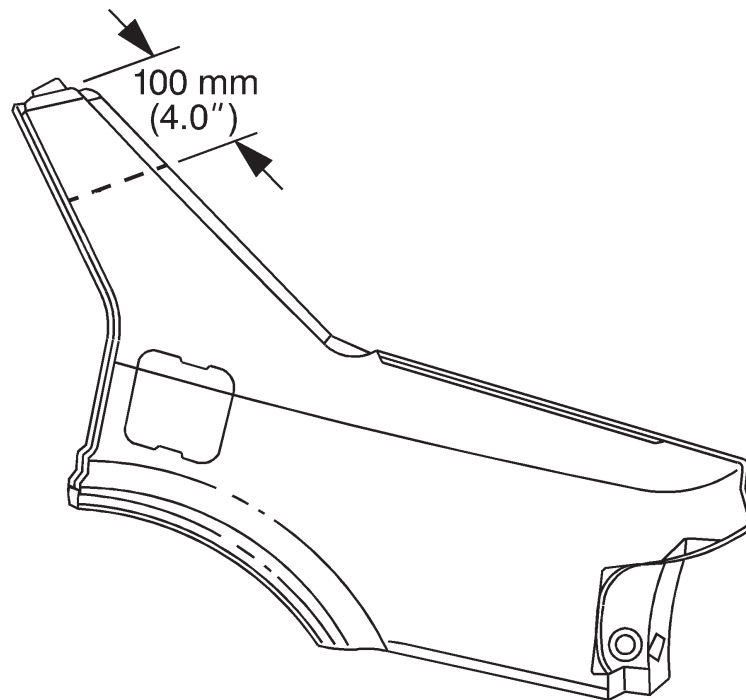

Fig. 4.29 — Service Part Cut Location
- 1 On the service part, mark a horizontal line to leave a gap of one and one-half times the thickness of the metal at the sectioning joint. Cut the quarter panel service part along this line (Fig. 4.29).